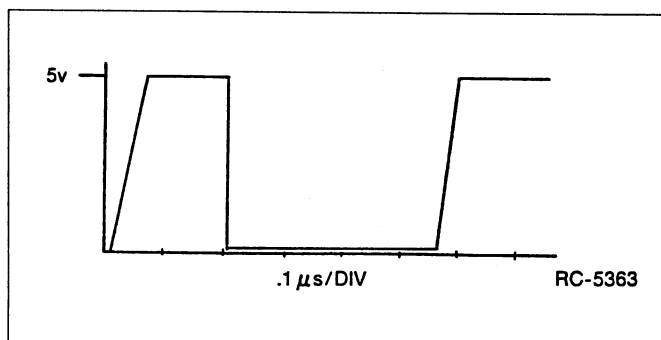

Figure 3 - ALE Clock
3. Check for oscillator activity by examining the ALE clock on U701, Pin 30 (see Figure 3). If not present, examine the system clock on U701, Pin 18 (5 volts pp at 11.059 MHz). The presence of the system clock but no ALE may indicate a bad U701. If the system clock is not present, suspect Y701 and related components.